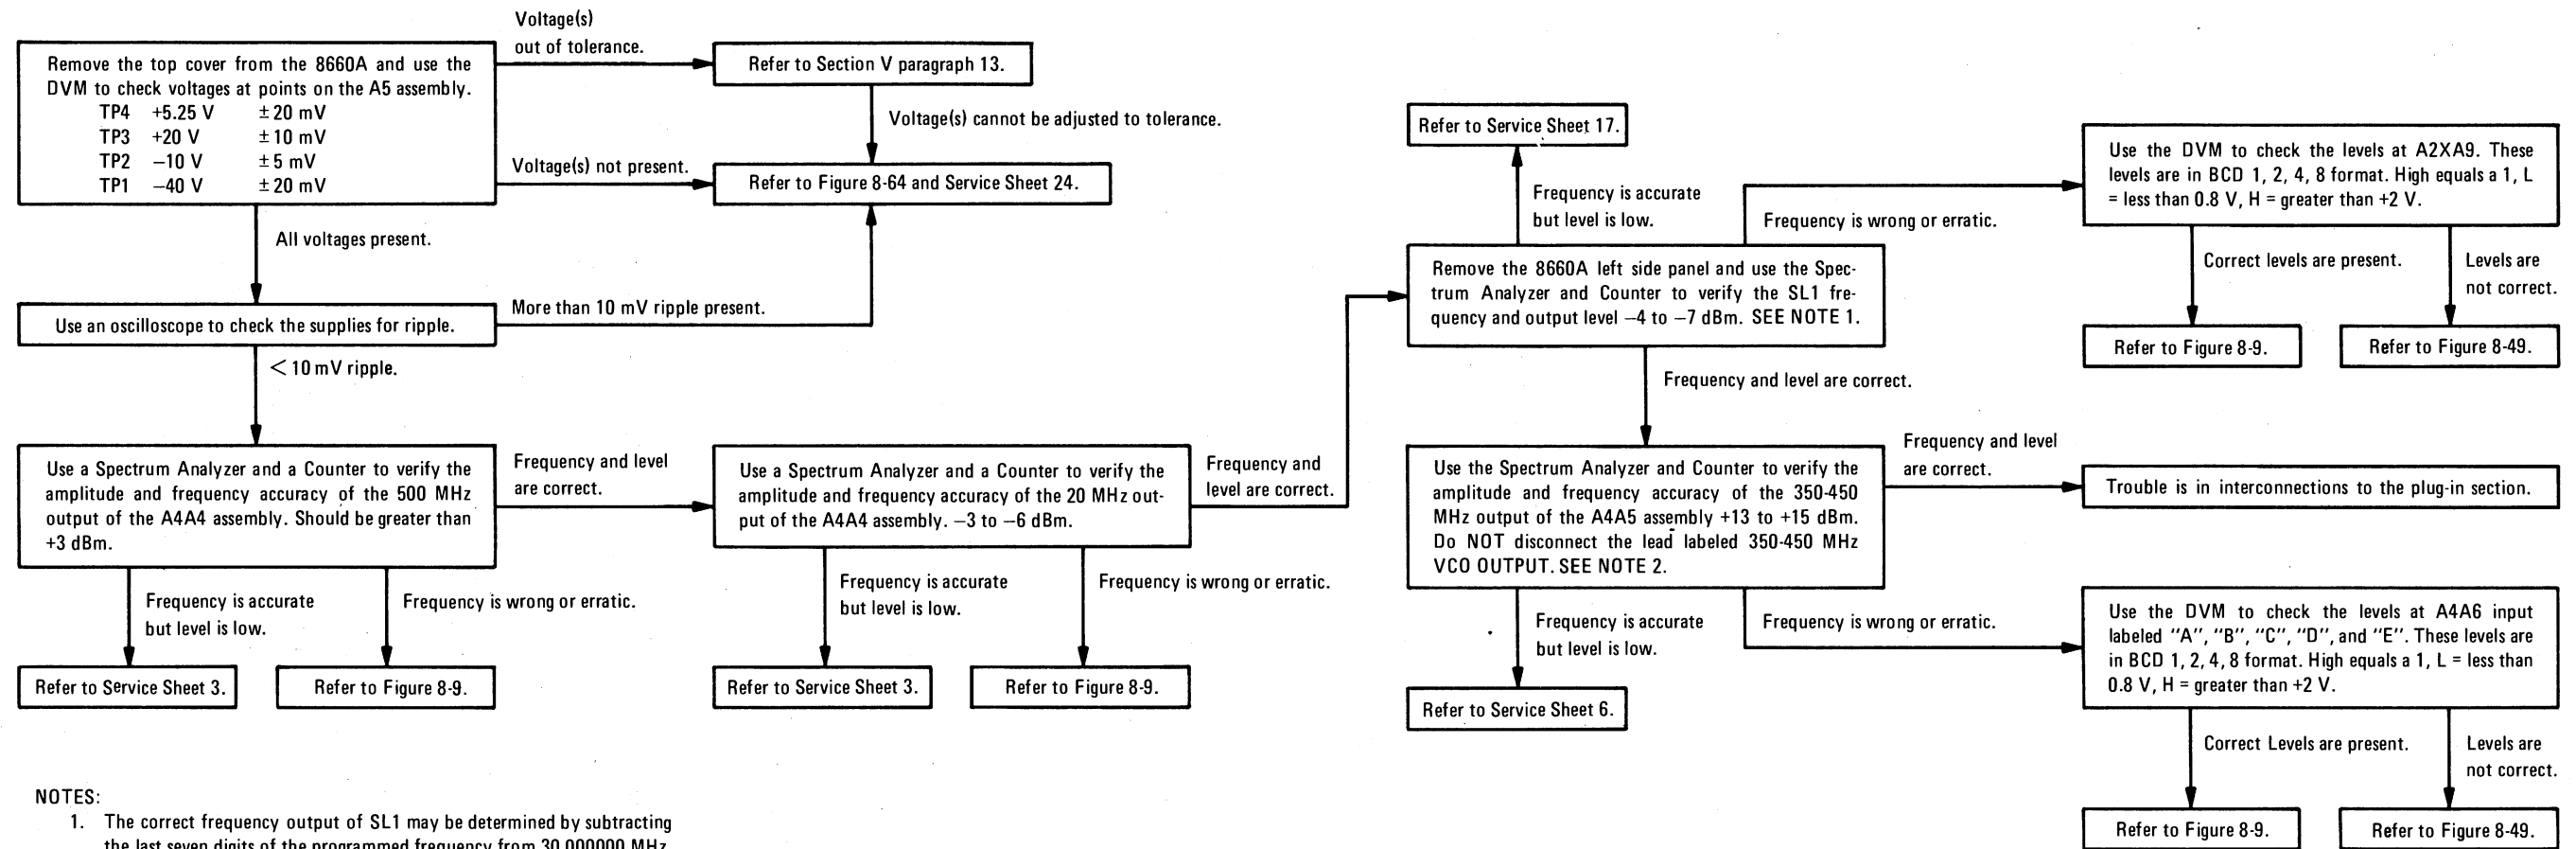

Figure 8-4. Model 8660B With Circuit Board Extended for Maintenance
**8-40. Circuit Board Extenders.** Circuit board extenders are provided with the instrument. These extenders enable the technician to extend plug-in boards clear of the assembly to provide easy access to components and test points. See Figure 8-4 for a typical example of extender board use.